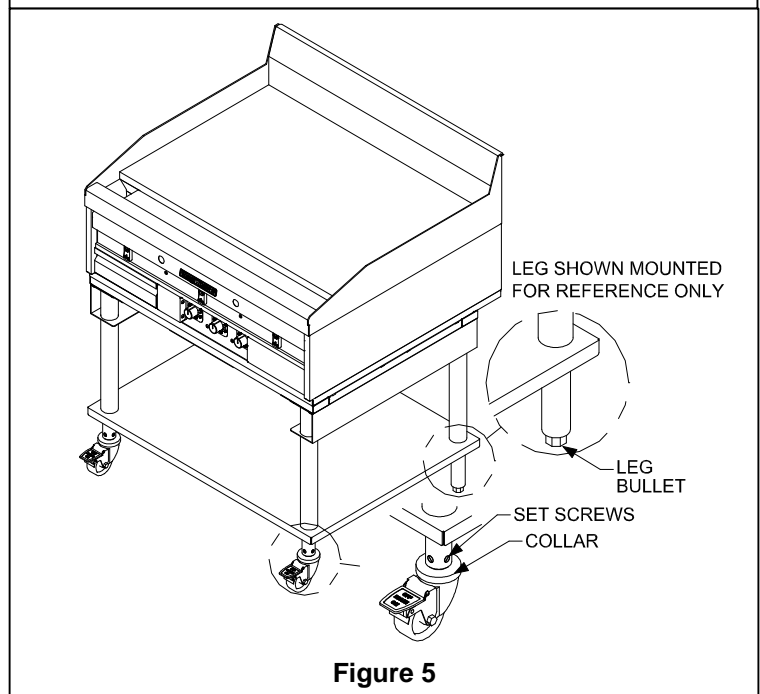

Figure 5
2. **Legs-** using a wrench, or pliers turn the leg bullet, See Figure 5, CCW to raise the height of the equipment stand. There is 1/2" to 3/4" of adjustment.
Casters- Using a Flat Head screwdriver, loosen the set screws of the caster to be leveled, See Figure 5. Turn the collar of the caster CCW to raise the height of the equipment stand. There is 3/4" of adjustment.